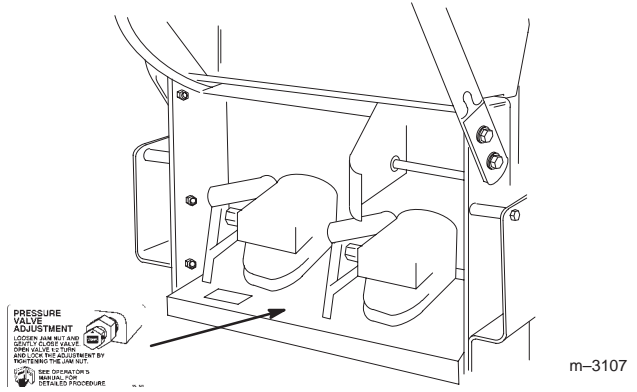

Figure 5
1. Install decal for by-pass valve adjustment to rear frame (Fig. 5).